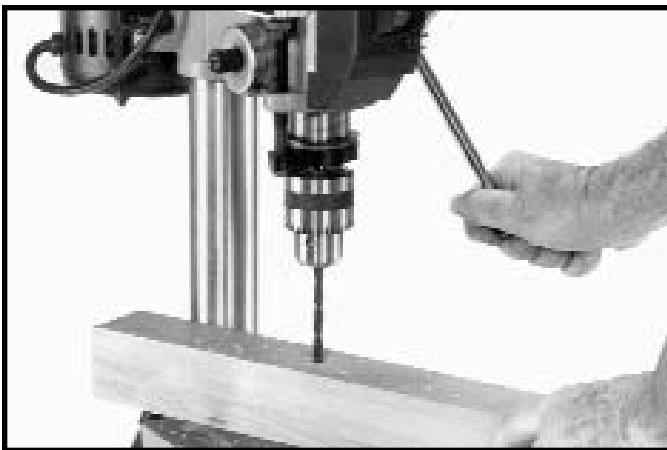

Fig. 27
**IMPORTANT:** When the workpiece is long enough it should always be positioned on the table with one end against the column, as shown in Fig. 27. This prevents the workpiece from rotating with the drill bit or cutting tool, causing damage to the workpiece or personal injury to the operator. If it is not possible to support the workpiece against the column, the workpiece should always be fastened to the table using clamps or a vise.